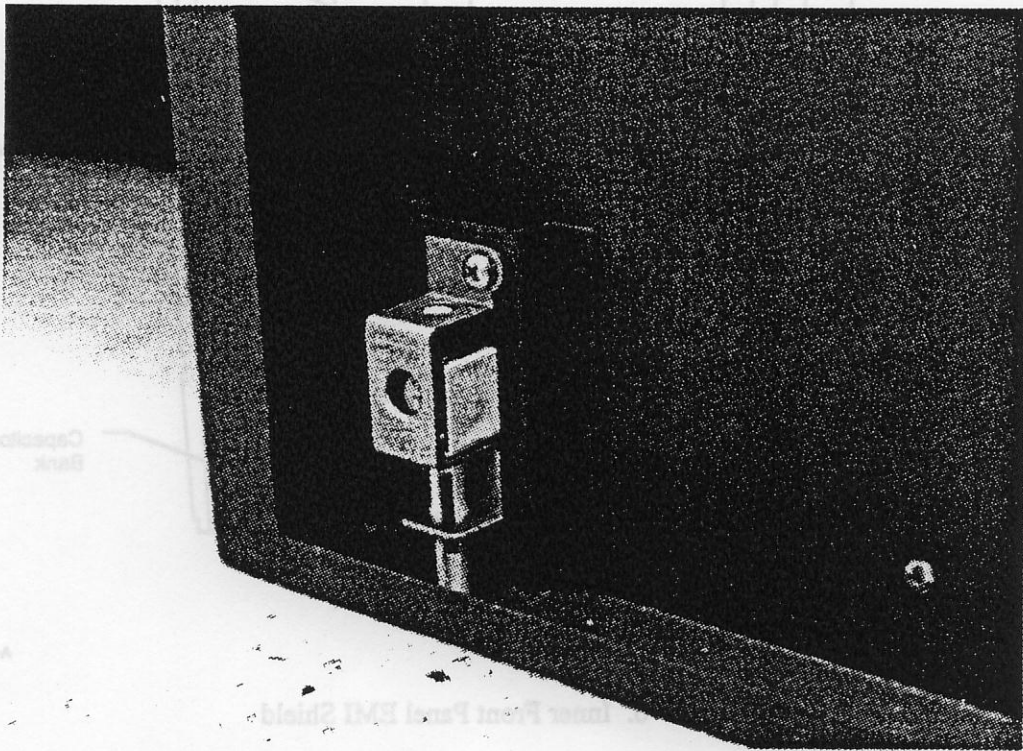
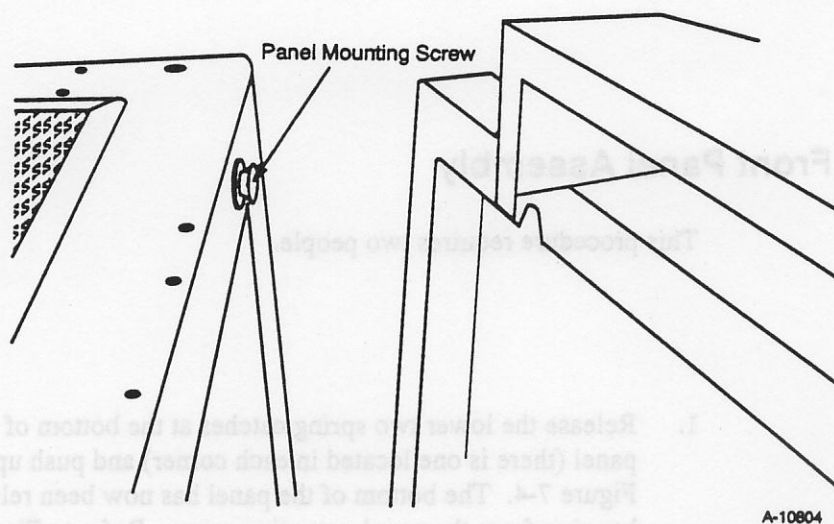

Figure 7-4. Front Panel Spring Catches
Figure 7-5. Panel Mounting Screw
1. Release the lower two spring catches at the bottom of the front panel (there is one located in each corner) and push up. Refer to Figure 7-4. The bottom of the panel has now been released and is hanging from the panel mounting screw. Refer to Figure 7-5.
2. Hang the panel on the panel mounting screw carefully. Refer to Figure 7-5. Be careful not to damage the control board trim cover.
1. Release the lower two spring catches (Figure 7-4) located on the bottom of the panel (there is one located in each corner) and push up on the release rod. The bottom of the panel has now been released and is hanging from the panel mounting screw. Refer to Figure 7-5.
2. Hang the panel on the panel mounting screw carefully. Refer to Figure 7-5.